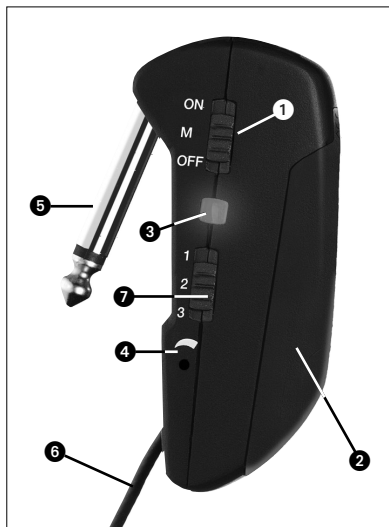

Fig. 1: GB 40 FLEXX controls
2.5 Controls (refer to fig. 1 on page 13)